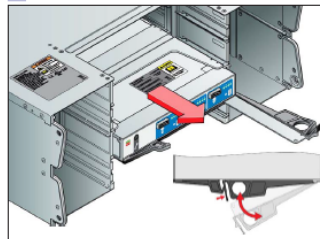

Figure 5: Removing an I/O Module
- Release the latch and pull the handle out to cam the module out of the enclosure (see Figure 5).